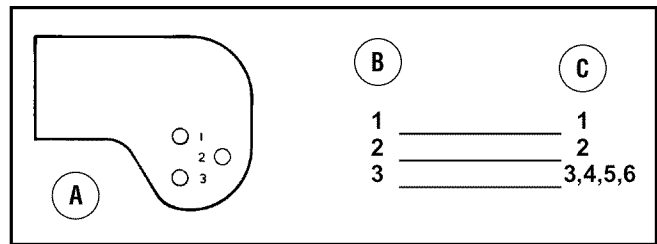

Figure 38: Gauge wheel bracket positions
3. Look at each **gauge wheel bracket**. There are 3 holes in each bracket and a number next to each hole. The number for the height of cut position on the **deck lift lever** indicates the correct hole to use on each **gauge wheel bracket** (Figure 38).
4. Assemble the axle bolts to the **gauge wheel brackets** using the correct hole in the bracket as indicated (Figure 38).
**NOTE:** If the height of cut position is changed by the deck lift lever, you must move the gauge wheels to the correct hole (Figure 38) to keep a level height of cut.